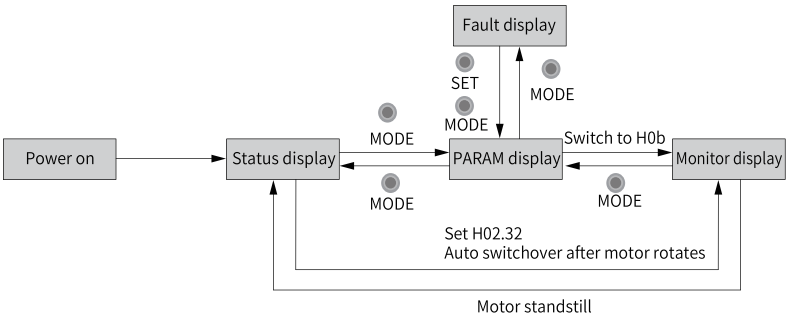

Figure 1-2 Switchover among different display modes
- Press MODE to switch among different display modes based on the conditions shown in "Figure 1-2 " on page 15 .